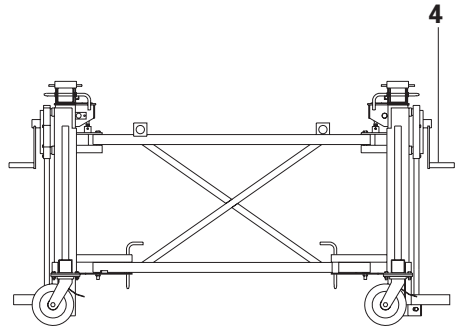

Fig. 8
- **the rack and pinion winch 4 is only to be used in perfect technical condition! Fig. 8**